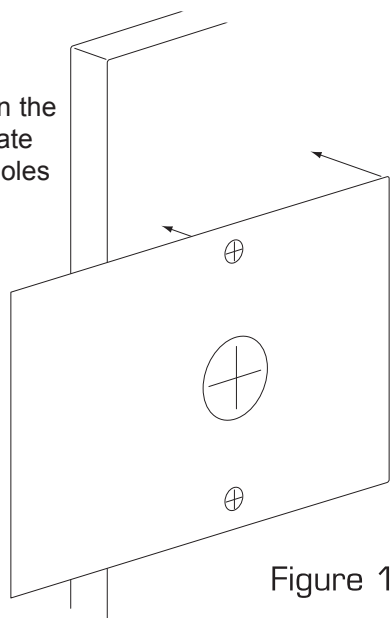

Figure 1
- ① Follow the instructions on the enclosed template and drill the 3 holes into the door. (See Figure 1)